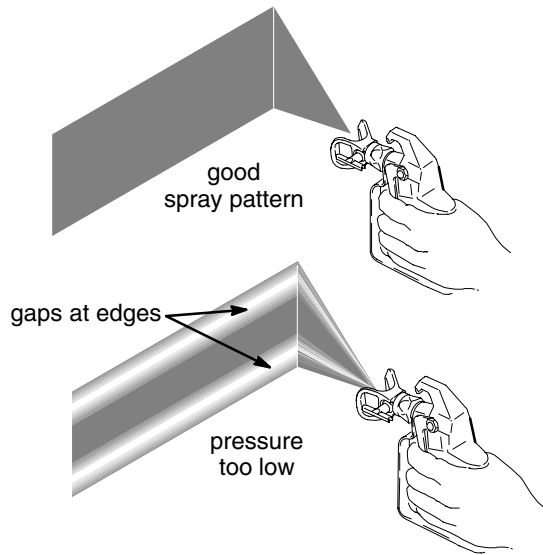

Fig. 36
- Spray should be atomized (evenly distributed, no gaps at edges) (Fig. 36). Start at low pressure setting, increase pressure a little at a time until paint is atomized.